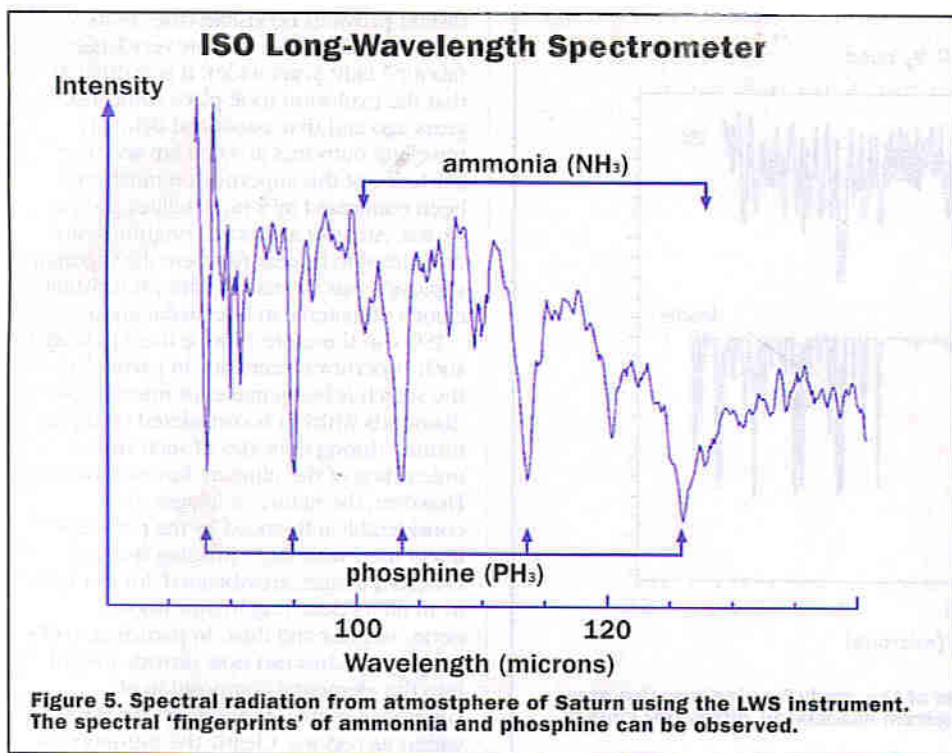

Figure 5. Spectral radiation from atmosphere of Saturn using the LWS instrument. The spectral 'fingerprints' of ammonia and phosphine can be observed.
Figure 5 shows ISO during preparation for blast off in French Guyana close to its successful launch on the 17th of November 1995 aboard an Ariane 44P launch vehicle. The mass of ISO at launch was 2,400kg with the craft some 3.5m in diameter and 5.3m long. The cryostat cover of ISO was successfully ejected in the 10th orbit of ISO's mission. On present estimates ISO will continue to function till November 1997. The total budget for ISO is estimated at ECU 650 million.
Figure 5 indicates using data from the long wavelength spectrometer the spectral fingerprints of ammonia and phosphine in the atmosphere of Saturn. Similarly Figure 6 indicates the existence of so called deuterated hydrogen (HD) where an atom of hydrogen (one proton) becomes bonded to an atom of deuterium (one proton and one neutron). The determination of the relative abundances of these two isotopes provides clues about processes of evolution of planetary systems from the times of their earliest existence.